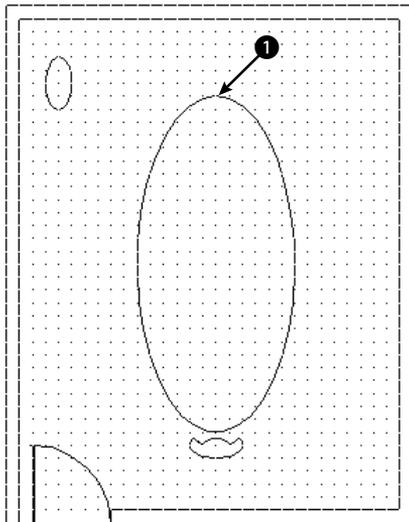

Figure 9-8: The conference room.
2. Save the file as ab09-05.dwg in your AutoCAD Bible folder. This drawing shows a conference room, as shown in Figure 9-8.
9. At the Specify base point or displacement: prompt, locate the Center object snap to pick the center of the arc that makes up the back of the chair. (Press Tab to cycle through the object snaps if necessary or move the cursor over the arc itself, or its center.) At the Specify second point of displacement or <use first point as displacement>: prompt, pick point ① in Figure 9-8. This point doesn't have to be exact. Press Enter to end the command.